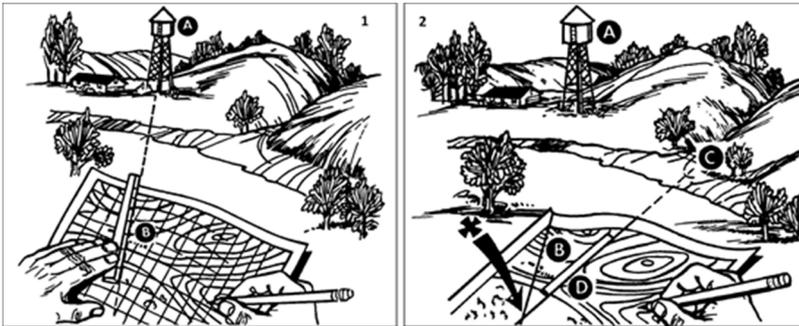

Figure 071-COM-1015-2. Resection using the straight edge method.
2. Identify your location on a map by resection using the straightedge method (Figure 071-COM-1015-2).